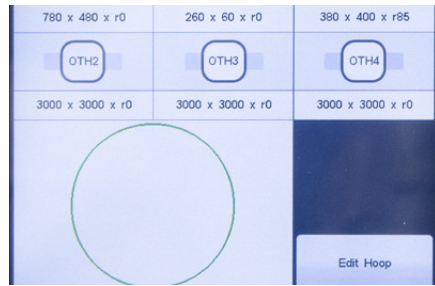

Figure 78
1. Select the Preset Hoops key on the main menu. **See Figure 78.**
3. Select the hoop that corresponds with the hoop you are using. **See Figure 78.**